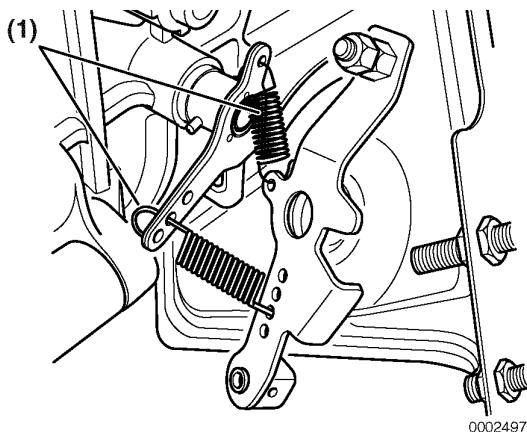

Figure 8-83
2. Pull the assembly away from the crankcase (**Figure 8-83, (1)**) and mark the position of each spring end for reassembly. Carefully remove each spring.